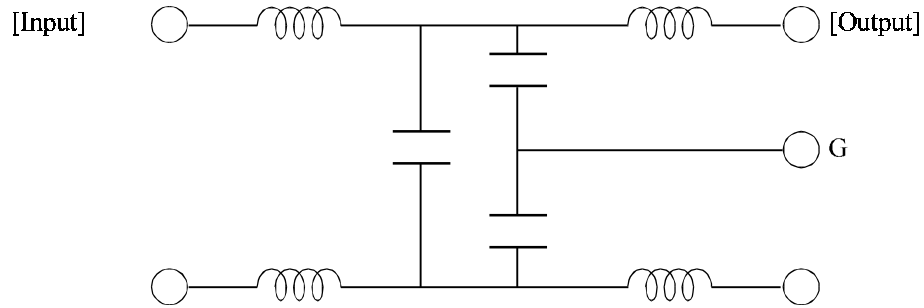

Figure 4.10 AC noise filter (recommended)
- Circuit construction: T-configuration as shown in Figure 4.10 is recommended.